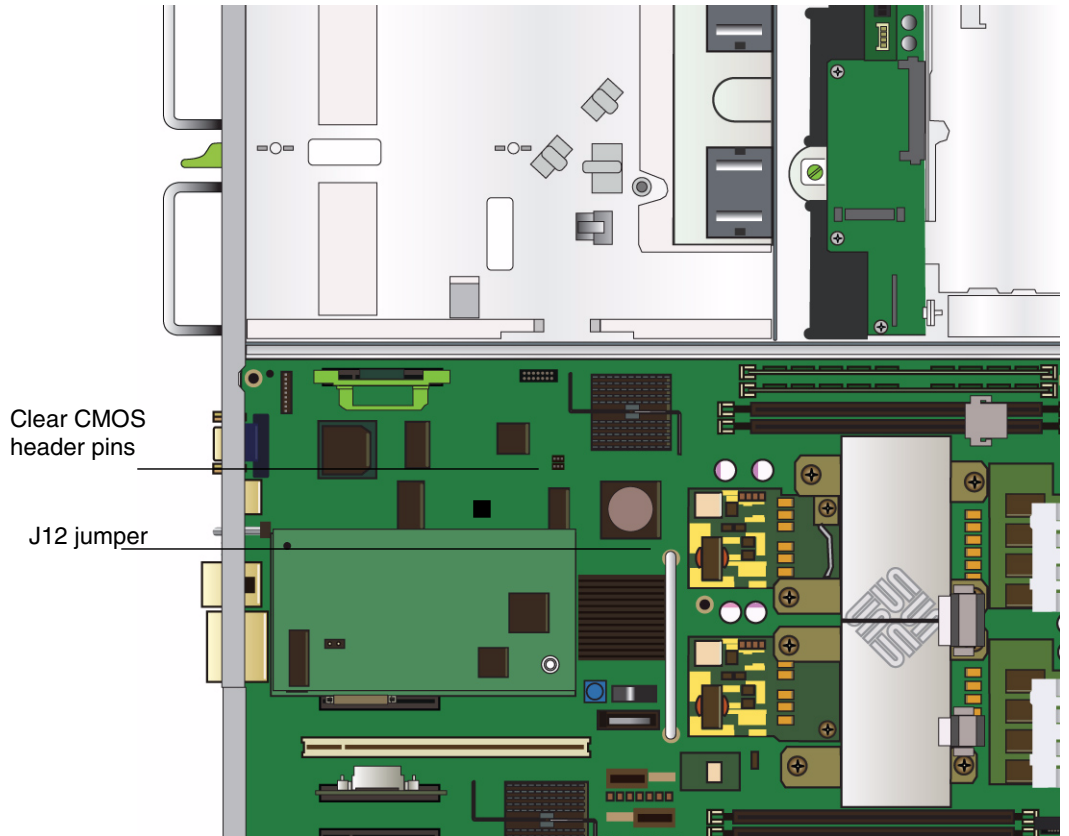

FIGURE 2-6 Clear CMOS and J12 Jumper Locations on the Motherboard
See FIGURE 2-6 for the J12 jumper location. The function of the J12 jumper is to clear the ILOM Service Processor (SP) password.
See FIGURE 2-6 for the Clear CMOS jumper location at J9.